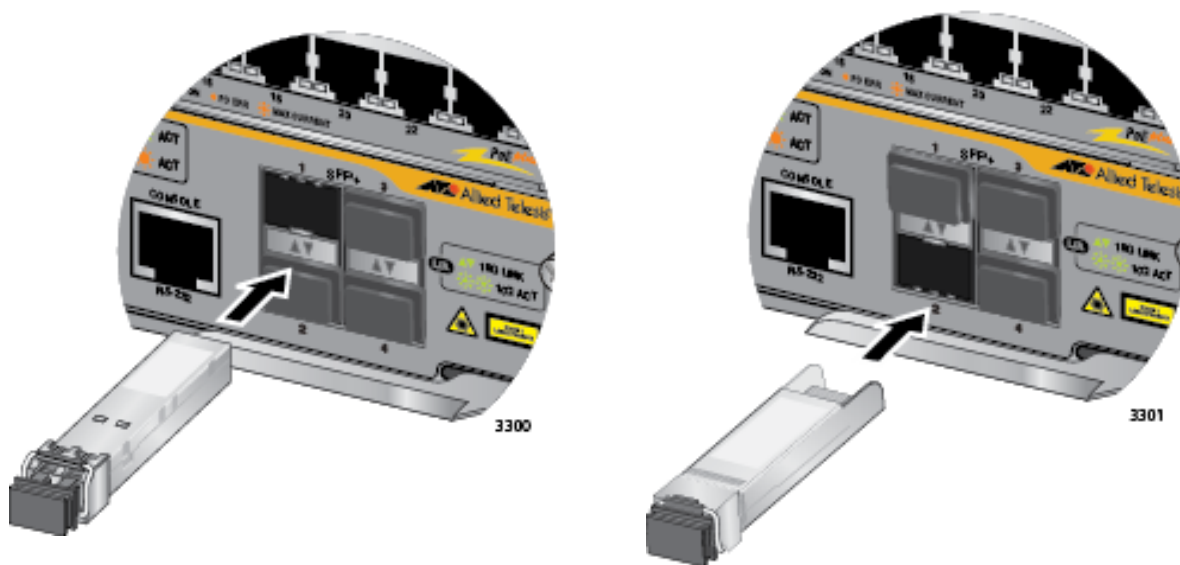

Figure 120. Installing an SFP+ Transceiver in the AT-SBx81CFC960 Controller Fabric Card
3. Slide the transceiver into the slot until it clicks into place, as shown in Figure 120 on page 198.